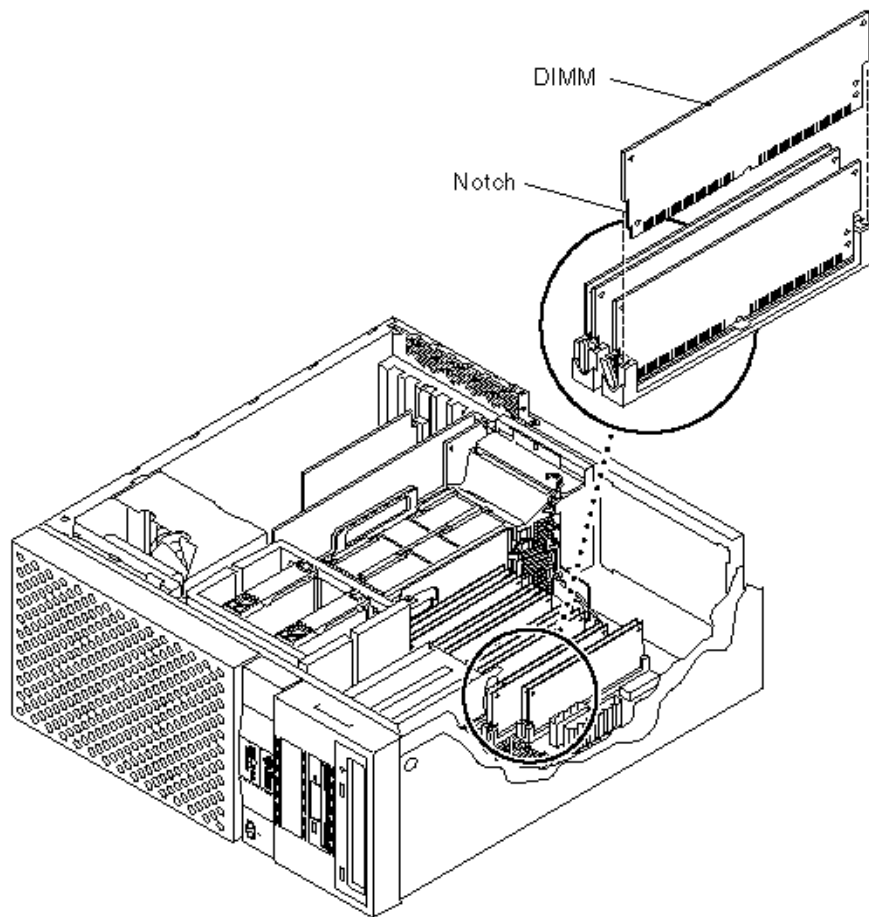

Figure 10-5 Removing and Replacing a DIMM
7. Remove the DIMM from the socket (Figure 10-5).
3. Install the DIMM as follows (Figure 10-5):